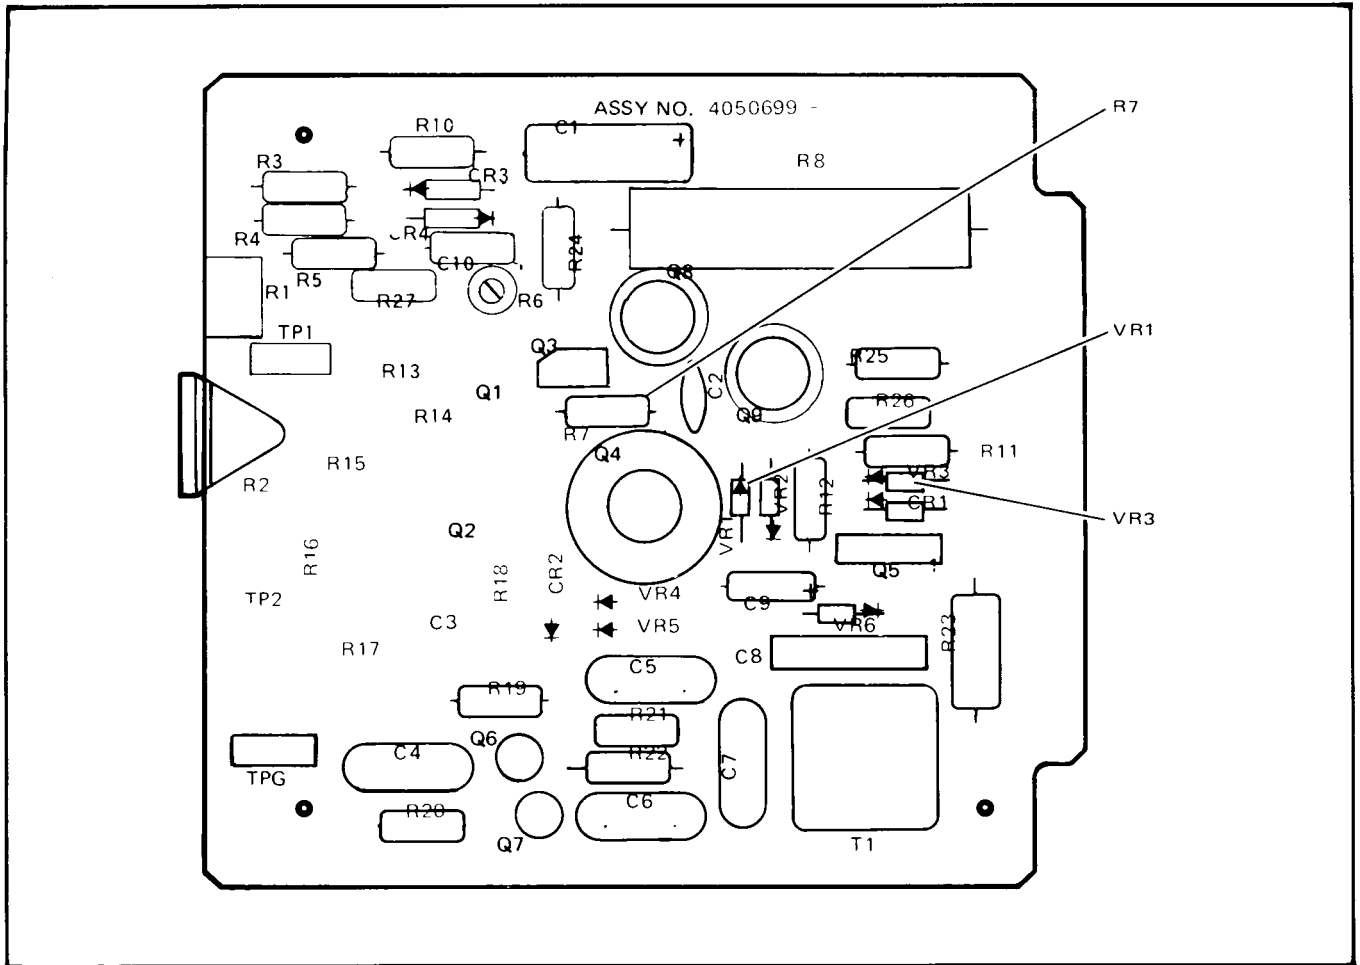

Figure 2-10. 27-Volt Regulator PWA Parts Location
- To insure smooth operation of the take-up tension kit, it is necessary to modify the 15/27 Volt Regulator PWA No. 4050694-10 as directed. (Refer to Figures 2-10 and 2-11.)